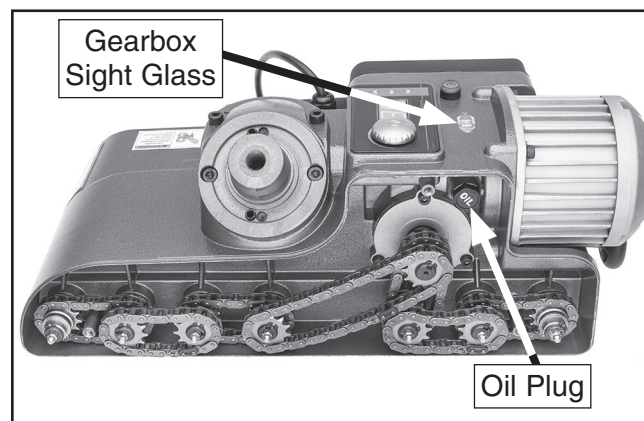

Figure 19. Oil plug and gearbox sight glass locations.
2. Locate gearbox sight glass beneath control panel (see **Figure 19**).
4. Remove oil plug (see **Figure 19**) and add gear oil until sight glass is filled approximately halfway, then replace oil plug.